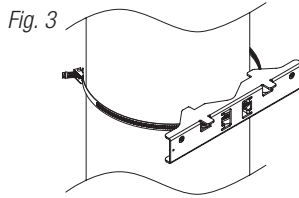

Fig. 3
2. Once the desired height of the top Pole Mount bracket is achieved, tighten the straps down by sliding open end of the strap through the locking mechanism on the strap, then tighten the screw with flat head screwdriver or 5/16" hex socket driver (Fig. 3).